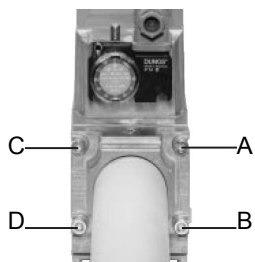
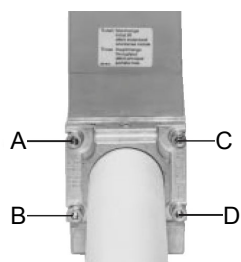

Fig. 10
Fig. 11
- 1 Loosen screws A and B **do not** unscrew (Fig. 10 e Fig. 11)
- 2 Unscrew screws C and D (Fig. 10 e Fig. 11)